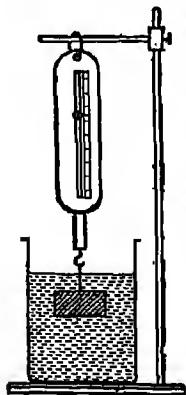

FIG. 189. Weighing an object immersed in water.
**Expt. 241. Is there an upward thrust when a body is totally immersed?** Arrange the apparatus as shown in Fig. 189. Attach an object to the spring balance, which is supported by a retort stand. Note the weight of the object in air. Now allow the object, still attached to the spring balance, to sink in some water in a beaker. The
**Expt. 244.** To find the S.G. of a solid which sinks in water. Weigh the solid in air, then weigh it suspended in water. The arrangement used in Fig. 189 may be used.